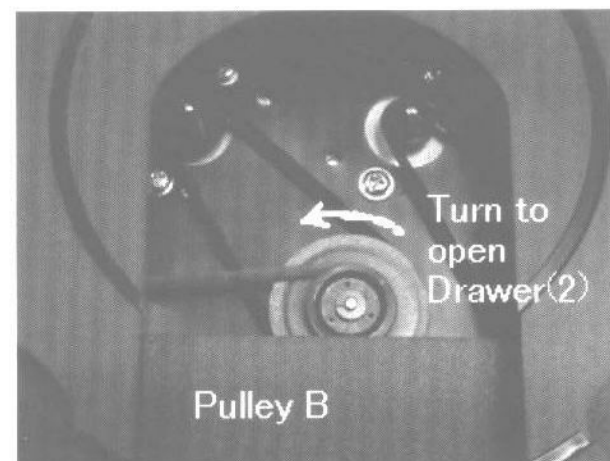
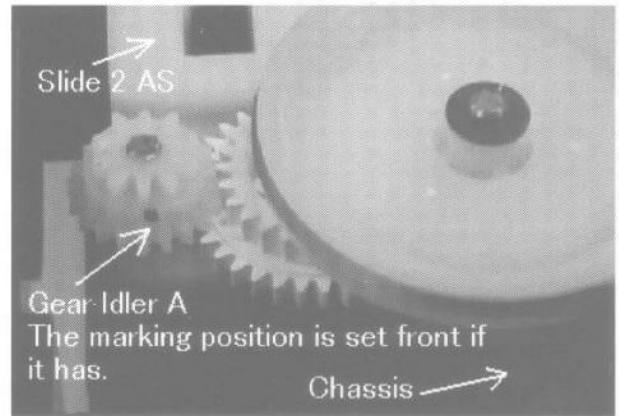
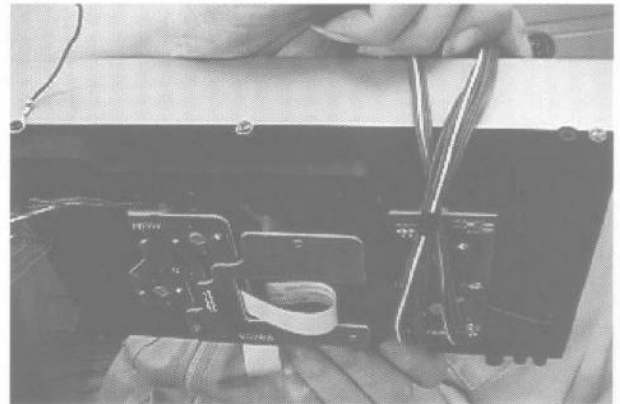

Fig. 3
Fig. 11
Fig. 12
- 1) Remove 6 SCREWS(115) from COVER(23).
- 2) Turn PULLEY B(32) anti-clockwise and pull DRAWER(2) block. The DRAWER block is easily pulled out. (See Fig.3)
10) When you assemble DRAWER block with CHASSIS, it is important that linear gears in CHASSIS gang well with GEAR IDLER A(39). While GEAR IDLER A isn't ganged well, turn PULLEY B(32) (Fig. 3) a bit and make them ganged. (Take care not to turn it much. GEAR IDLER A should be in +/- 45 degrees from the center.) (See Fig. 11)
11) Push in two hooks at the both sides as they sound click. (You may fix the right side hooks first before you move Drawer block inside in item 9).
12) Put COVER(23) and mount six SCREWS(115).
13) This is a completed or removed condition. (See Fig. 12)